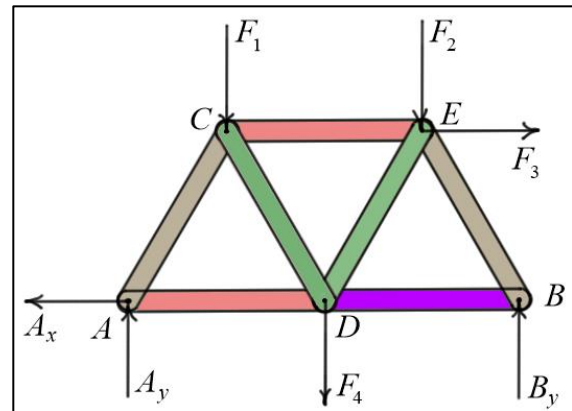

Fig. 2 Free Body Diagram of Truss
- The *external support reaction forces* holding the truss in equilibrium are found by treating the entire truss as a rigid body. First, *draw a free body diagram* of the truss (Fig. 2), then *write and solve* the equations of equilibrium.